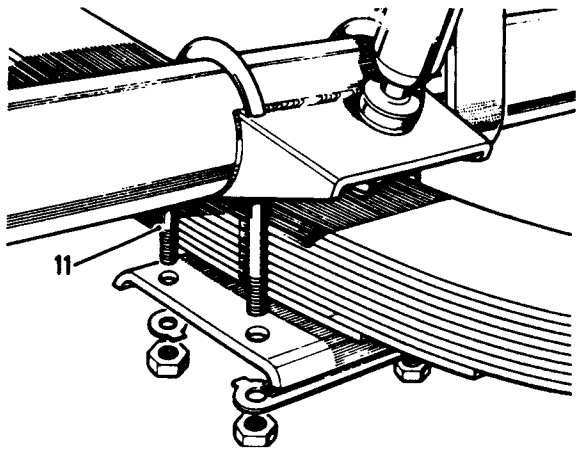

Fig J1.9
(11) Refer to Fig J1.9. Remove the four U-bolts from the axle.